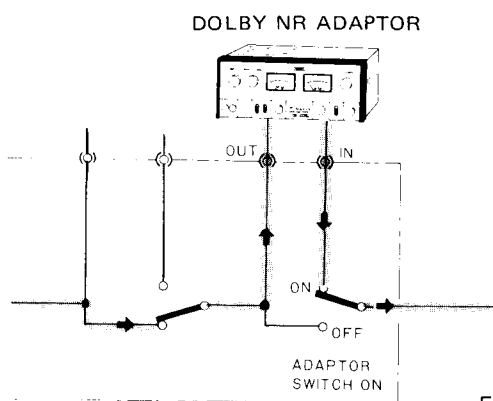

Fig. 25
2. Connect the Dolby adaptor as shown in Fig. 25. to the ADAPTOR IN and OUT jacks.